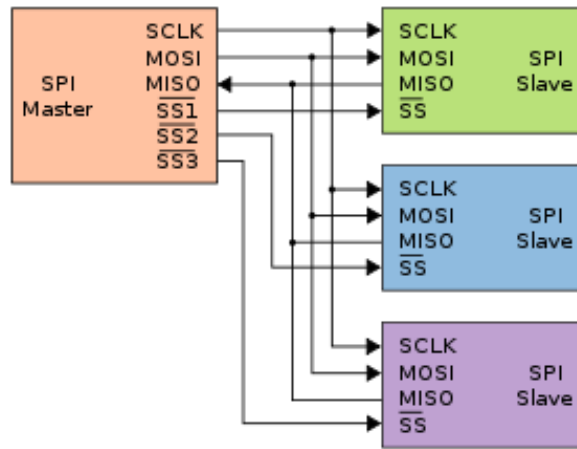

Figure 4: SPI communication protocol.
- **SPI :** This communication protocol is used to communicate between the TinyPico and the SD card slot. This protocol employs 4 wires and supports multiple devices on the same bus, but unlike I2C one extra wire is needed for each new sensor (see Figure 4). This makes the connections between devices more complicated since we need 4 wires instead of 2 with I2C, but this protocol can communicate faster than I2C and the hardware of a SPI device is simpler, so this is why it is used to communicate with the SD card.